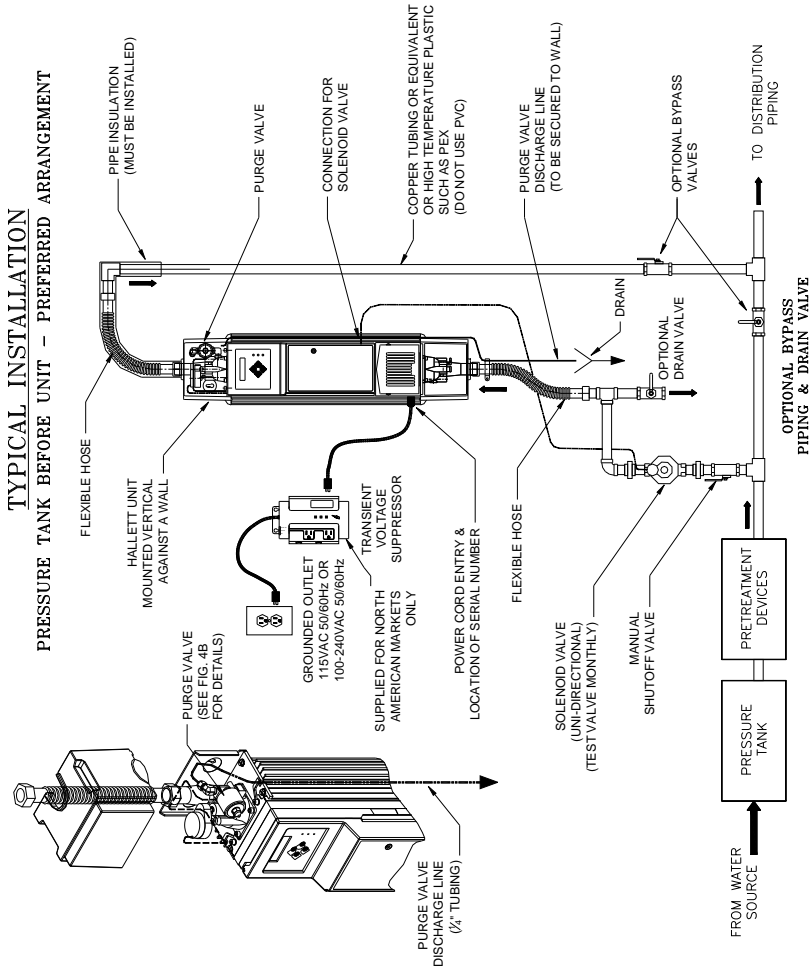

Figure 1B
There are two standard operating voltages for the Hallett 15xs unit. The unit may be 115Vac or 100-240 Vac and draws 175W. Please refer to the power input label located near the power cord entry of the unit. See Figure 1B. For convenience the front cover of the manual should also contain model number and operating voltage.
It also requires male NPT fittings for the hose connections and also for the solenoid valve (1"). The Hallett unit requires a drain for purge valve discharge line. These fittings, pipe insulation, and any piping compatible with the plumbing should be on hand before you begin installation. See Figure 1B and make a list of all necessary components including solder, paste and thread sealant. Bypass piping and valves that isolate the unit are optional, (but recommended) as is a drain valve for draining the unit.
Step 2: If you have decided to install an optional bypass line and drain, you may begin to install these fittings at this point. See Figure 1B or 1C for more information on how to connect optional bypass piping and drain.
Step 2: Plug the female end of the power cord into the power entry module located on the left side of the front panel. The power cord must be removed before front panel can be opened. See Figure 1B or 1C. Plug the male end of the power cord into the Transient Voltage Surge Suppressor. Plug the Transient Voltage Surge Suppressor into a grounded electrical outlet. Flip the switch on the